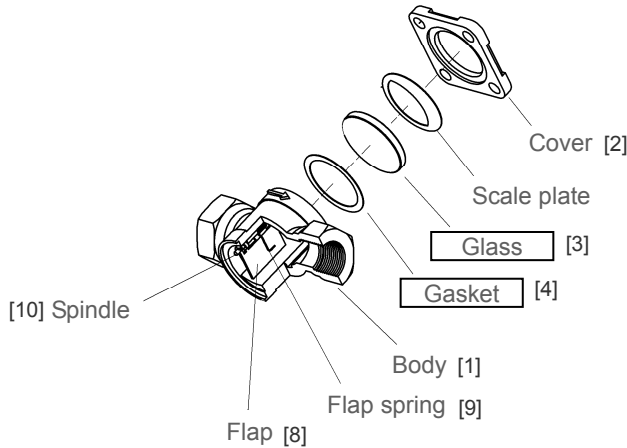

Figure 3
1. Attach the gaskets [4], glasses [3], scale plates (A and B) [11] [12] and covers [2] in this order to the body. (See Figure 3.)